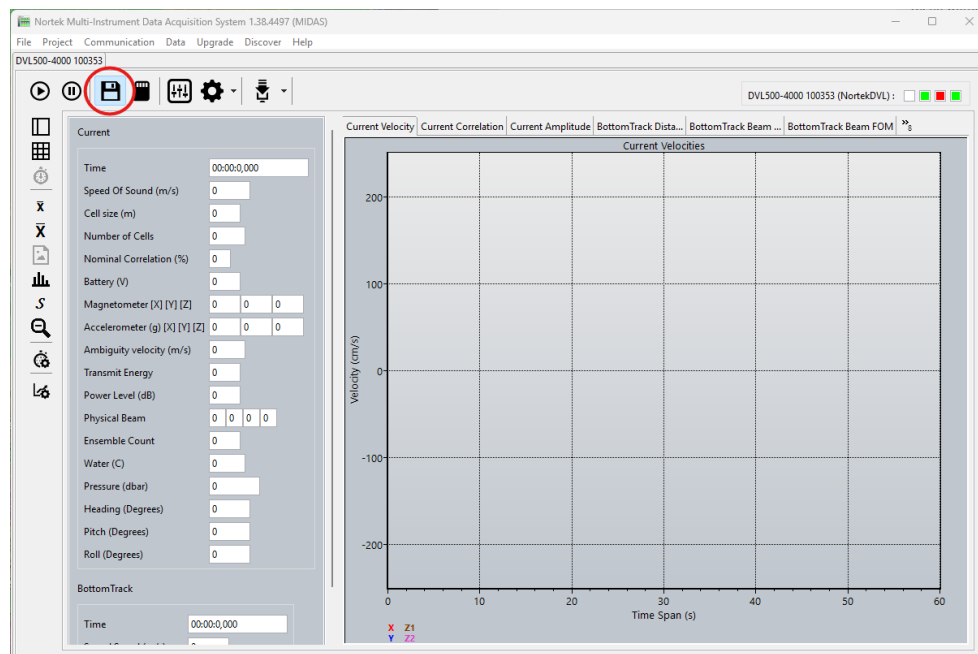

Figure 8: Midas Save to File
7. Configure recording for the DVL, specifying a file name in the “File Parameters” tab. Click OK to save configuration and file name. Select the floppy disk drive on the homepage (see figure 8) to enable saving to computer.